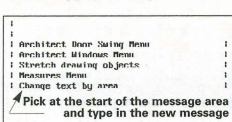

Figure 4
3. Type a new message in the message area (Change text by area), as shown in Figure 4.